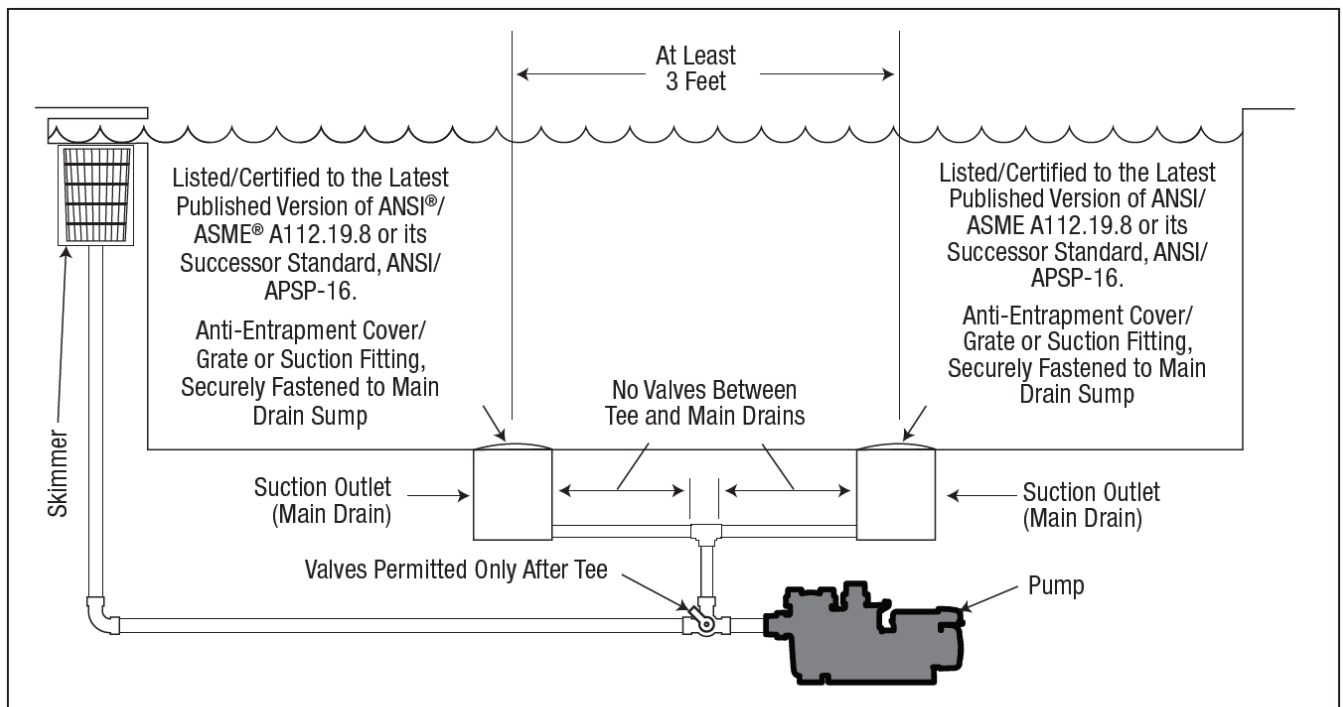

Figure 4. Number of Suction Outlets Per Pump
(3) feet apart, center to center. See *Figure 4*.
The system **must** be built to include at least two (2) suction outlets (drains) connected to the pump whenever the pump is running. However, if two (2) suction outlets run into a single suction line, the single suction line may be equipped with a valve that will shut off both suction outlets from the pump. The system shall be constructed such that it shall not allow for separate or independent shutoff or isolation of each drain. See *Figure 4*.